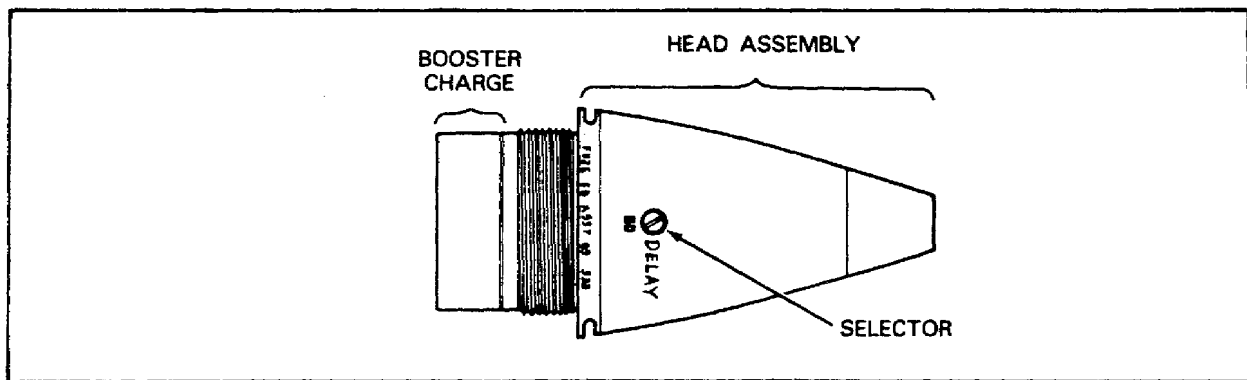

Figure 65. Artillery PD Fuze.
Point-Detonating Fuzes. The fuze illustrated in Figure 65 is a typical point-detonating (PD) fuze used with artillery ammunition. Note that the markings are engraved at the base of the head assembly with the type of fuze and the model number. Below the head assembly is a booster assembly.